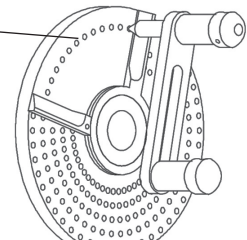

Fig. 2A
1. Rotate the sector so that the sector arm is against the plunger assembly as in Figure 2A.